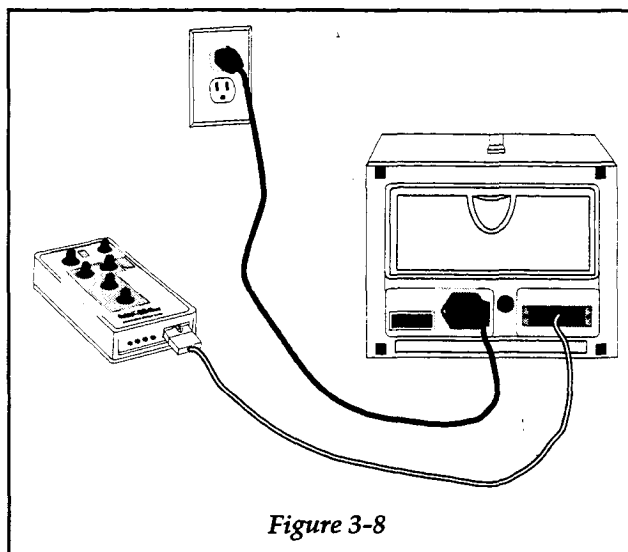

Figure 3-8
- Step 1 Make sure that the main power switch is set to OFF (0), then attach the DB15 male connector end of the BiPAP/DCP cable to the DCP cable connector on the back of unit. Attach the other end of the cable to the DCP as shown in Figure 3-8.